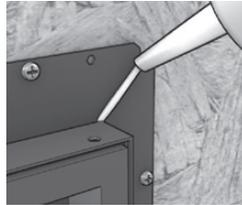

Figure 6
- (Required)** After fastening the window unit, apply sealant to the mitered corners of the nail fin (**Figure 6**). Make sure to apply it all the way into the corner of the unit.